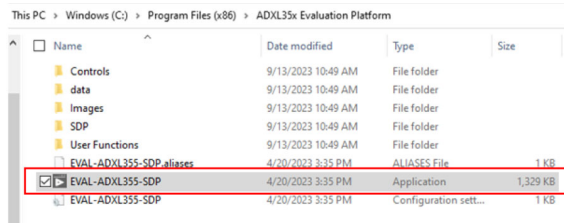

Figure 7. Run Software
1. After the installation is complete, the software can be run through the installation directory by launching **EVAL-ADXL357-SDP.exe** (see Figure 7), or the user can simply type **EVAL-ADXL357-SDP** in the Windows search bar and press the enter key on the keyboard to start the software.